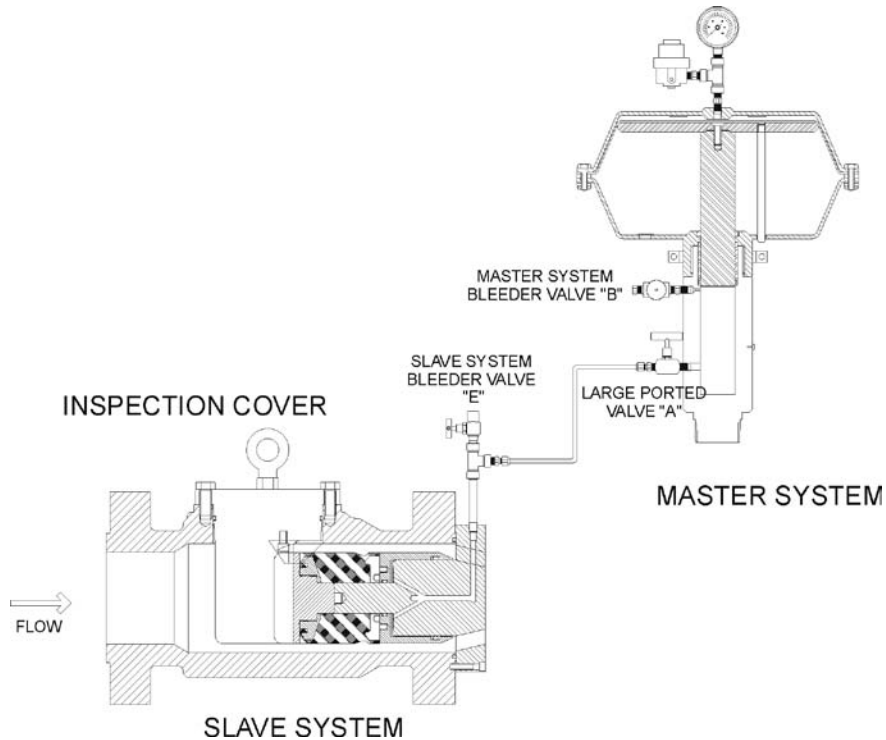

Figure 8 (Welker Jet Top Entry Control Valve)
- 3a. Hook up hand-held oil pump to the slave system bleeder valve "E", located on the *Welker Jet* Control Valve slave body (Figure 8). **Slowly open valve "E"** allowing the trapped oil and hydraulic pressure to enter the pump (if hydraulic seal are damaged in slave cylinder there will be pipeline pressure present). Most small, hand pumps are see-through or have a glass reservoir. The oil can be seen as it enters pumps and leaves the pump. These pumps also have a pressure-relieving plug on top to release any trapped pressure. If foam is present in hydraulic fluid, all of the air was not purged from the hydraulic system originally or one or both of the
- 3b. Attach a 0-2000# gauge to master system bleeder valve "B" (Figure 8, page 16). Open valve "B" slowly and check for excessive pressure. Pressure should be approximately 10 to 20 psig (.6 bar to 1.3 bar). If there is pressure on the hydraulic system, relieve pressure by opening slave system bleeder valve "E". If no pressure is found, close valve "B" and remove gauge from valve.
5. After checking the oil consistency, close valve "A", and valve "B" (Figure 8, page 16).
- 6a. Using the slave cylinder removal tool - blue in color (Figure 10, page 21), remove the slave cylinder. Be sure bleed valve “E” is open on the slave system body (Figure 8, page 16) or you will be trying to remove the cylinder under a vacuum.
9. Make sure connecting valve "A" (Figure 8, page 16) between the master cylinder and the slave system is closed. Open valve "B" and purge hydraulic system. Firmly grip and unscrew the diaphragm motor assembly from the master cylinder (a back-up wrench on the master cylinder will be required). It may be necessary to remove the pipe plug from master system bleed valve "B" (Figure 8, page 16) and slightly open the valve to relieve the vacuum in the master cylinder thus allowing the motor piston to be removed. After the diaphragm motor is removed, close bleed valve "B" but do not yet replace the pipe plug.
5. Open valve "A" (Figure 8, page 17) between the master system and the slave system.